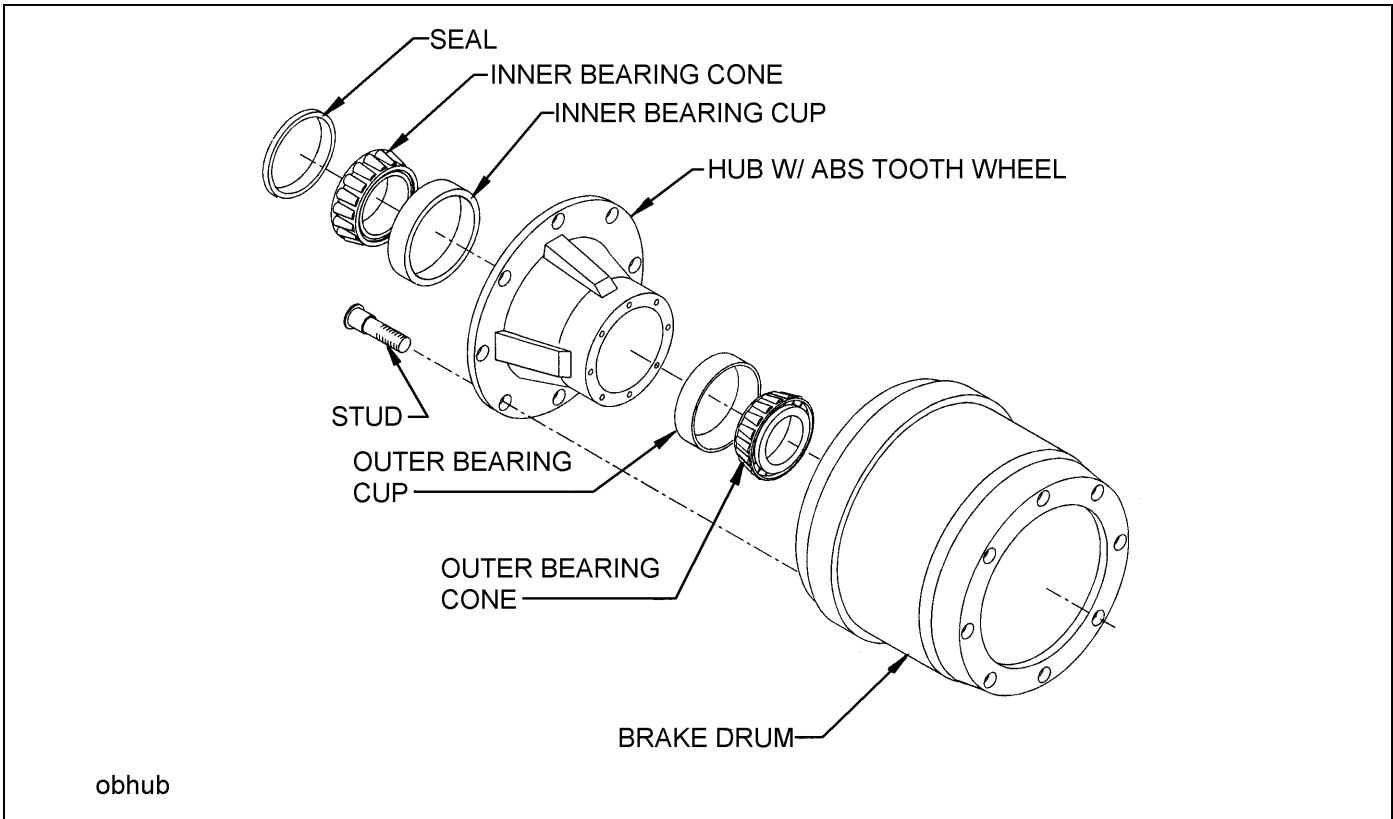

Figure 4-10: Outboard Mount Hub and Drum
4. Replace the hub and drum as follows: **(See Figure 4-10.)**
- a. Remove the brake drum **(See Figure 4-10.)** It may be necessary to release the slack adjuster.
- i. Place the drum over the hub and brake shoes being careful not to damage the threads on the studs (See Figure 4-10.) Make sure the drum seats flat against the hub flange and mates properly with the hub pilot. There should be no interference between the brake drum pilot chamfer and the corner radius on the hub. If interference exists, the hub will not be able to function properly.